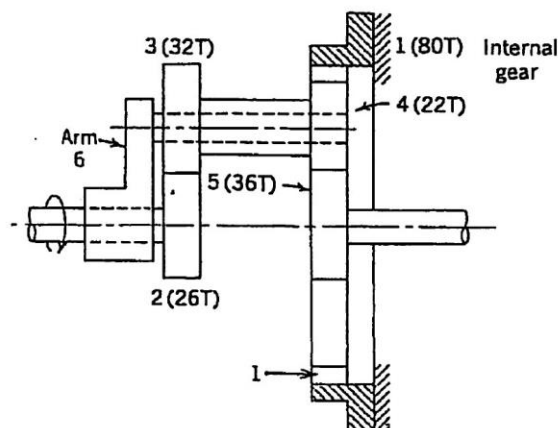

Fig. 7
11. In the planetary reduction unit shown in Fig. 7, gear 2 turns at 300 rpm in the direction indicated. Determine the speed and direction of rotation of gear 5. (10%)